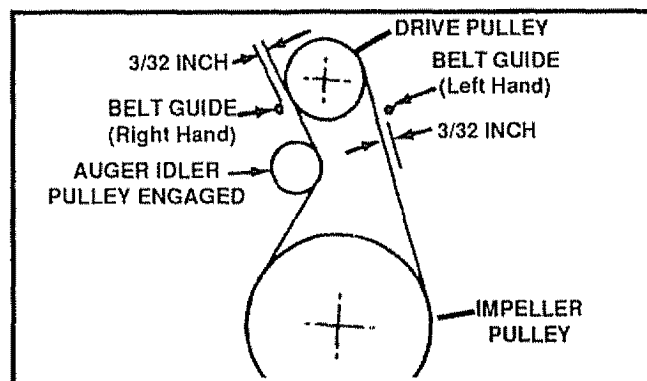

FIG. 30
- Loosen nut on auger idler pulley (See Fig. 30) and pull idler pulley away from belt.
- Measure the distance between the belt guides and the belt (See Fig. 30 on page 20). The distance should be $\frac{3}{32}$ " for each guide.